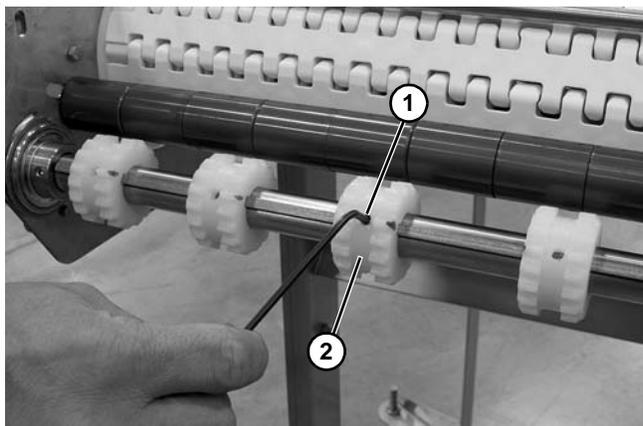

Figure 69
4. Tighten set screw (**Figure 69, item 1**) on drive sprocket (**Figure 69, item 2**).